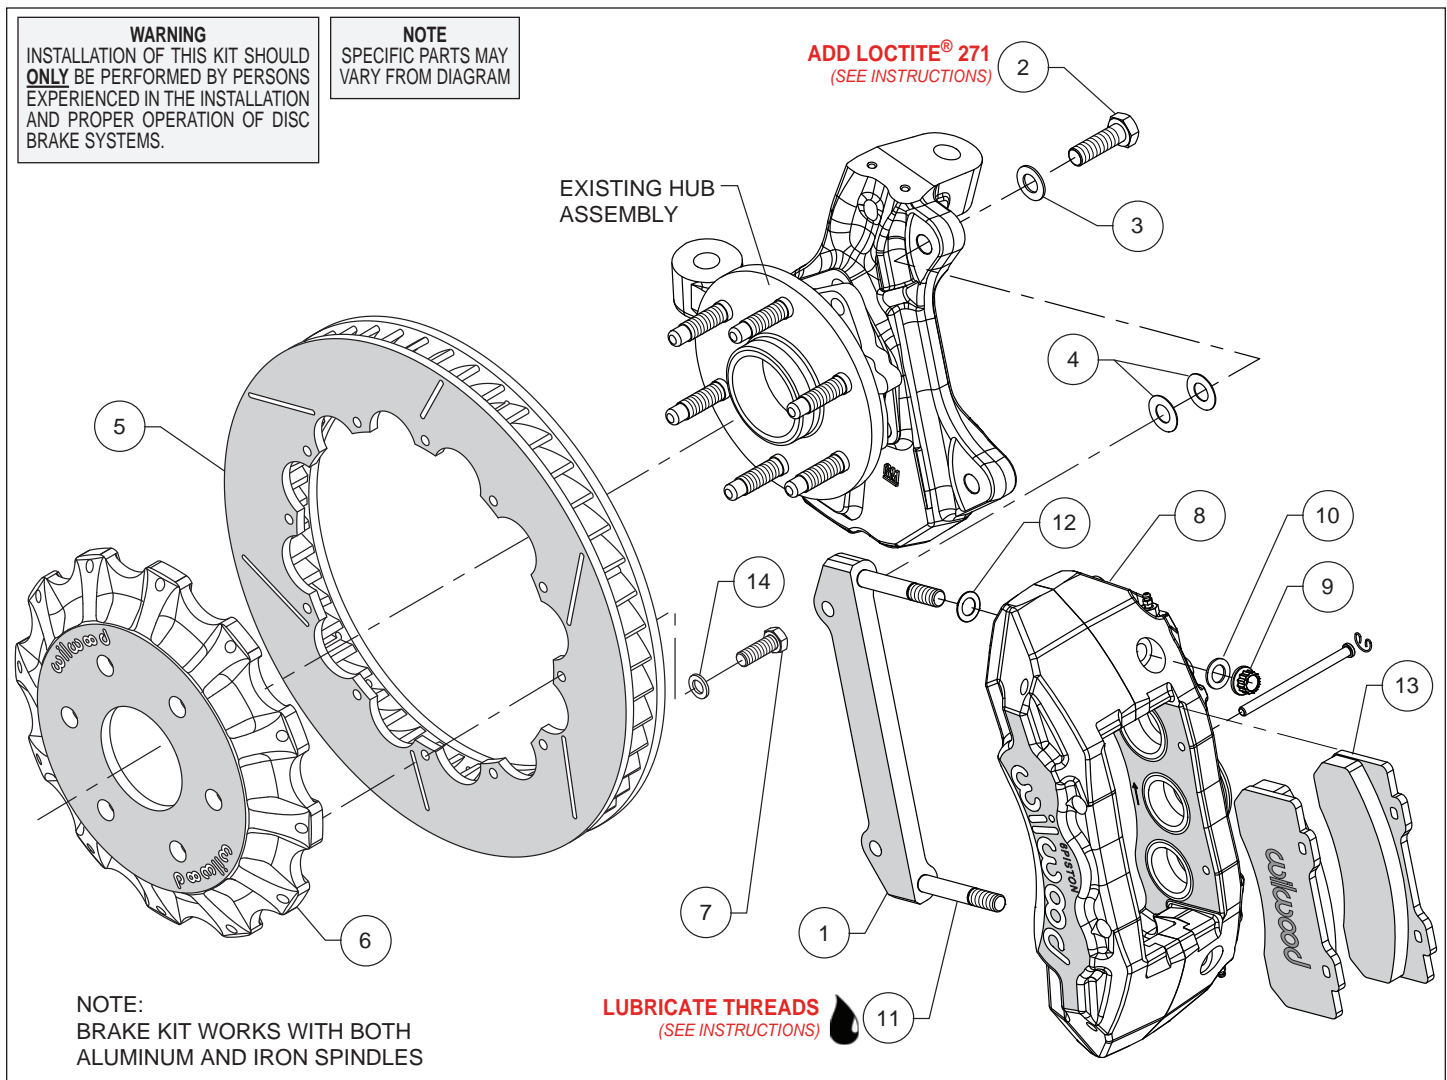
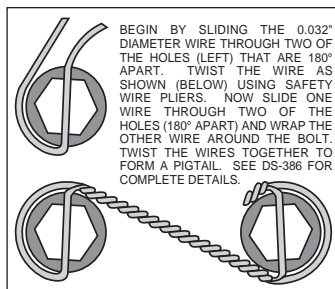

Figure 1. Typical Installation Configuration
Figure 3. Safety Wire Diagram
**Assembly Instructions** (numbers in parenthesis refer to the parts list and Figure 1 on the preceding pages):
- The caliper mount bracket (1) should initially be installed with clean, dry threads on the mounting bolts. Orient the bracket as shown in Figure 1 and Photo 1, and install using bolts (2) and washers (3). Initially place two .029 thick shims (4) on each bolt between the bracket and upright, Figure 1. Temporarily tighten the mounting bolts. **NOTE:** *The bracket must fit squarely against the mount bosses on the upright.* Inspect for interference from casting irregularities, machining ridges, burrs, etc. Later, after the caliper alignment has been checked, the mount bolts will be secured using red *Loctite*® 271.
- Orient the rotor (5) and the hat (6) as shown in Figure 1 and Photo 2. Attach rotor to hat using bolts (7) and washers (14). Using an alternating sequence, torque to 25 ft-lbs. For an added measure of security, the bolts may be safety wired using standard 0.032 inch diameter stainless steel safety wire as shown in Figure 3. Please refer to Wilwood's data sheet DS-386 (available at [www.wilwood.com/Pdf/DataSheets/ds386.pdf](http://www.wilwood.com/Pdf/DataSheets/ds386.pdf)) for complete safety wire installation instructions.
- NOTE:** *This kit contains distinct right and left hand calipers that must be mounted in a specific direction, as described below.* Lubricate the caliper mounting studs (11) with lightweight oil. Initially place one .032" thick shim (12) on each stud as shown in Figure 1 and Photo 3. Mount the caliper (8) onto the bracket (1) using lock nuts (9) and washers (10), Figure 1. Ensure that the caliper is mounted so that the largest pistons are at the rotor exit end of the caliper, in relation to the direction of rotor rotation. Temporarily tighten the lock nuts and view the rotor through the top opening of the caliper. The rotor should be centered in the caliper, Photo 4. If not, adjust by adding or subtracting shims (4) between the bracket and the upright. Always use the same amount of shims on each of the two mounting bolts. Once the caliper alignment is correct, remove the bracket mounting bolts (2) one at a time, apply red *Loctite*® 271 to the threads, and torque to 77 ft-lb.